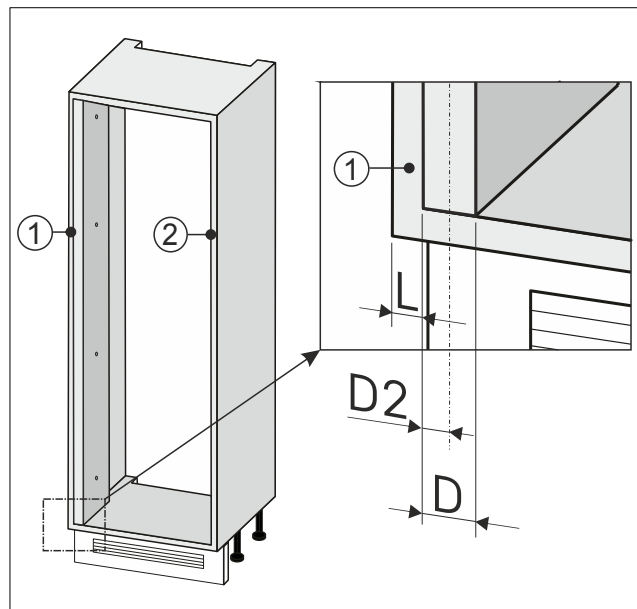

Fig. 91
- Note down the half width Fig. 91 (D2) of the wall levelling.